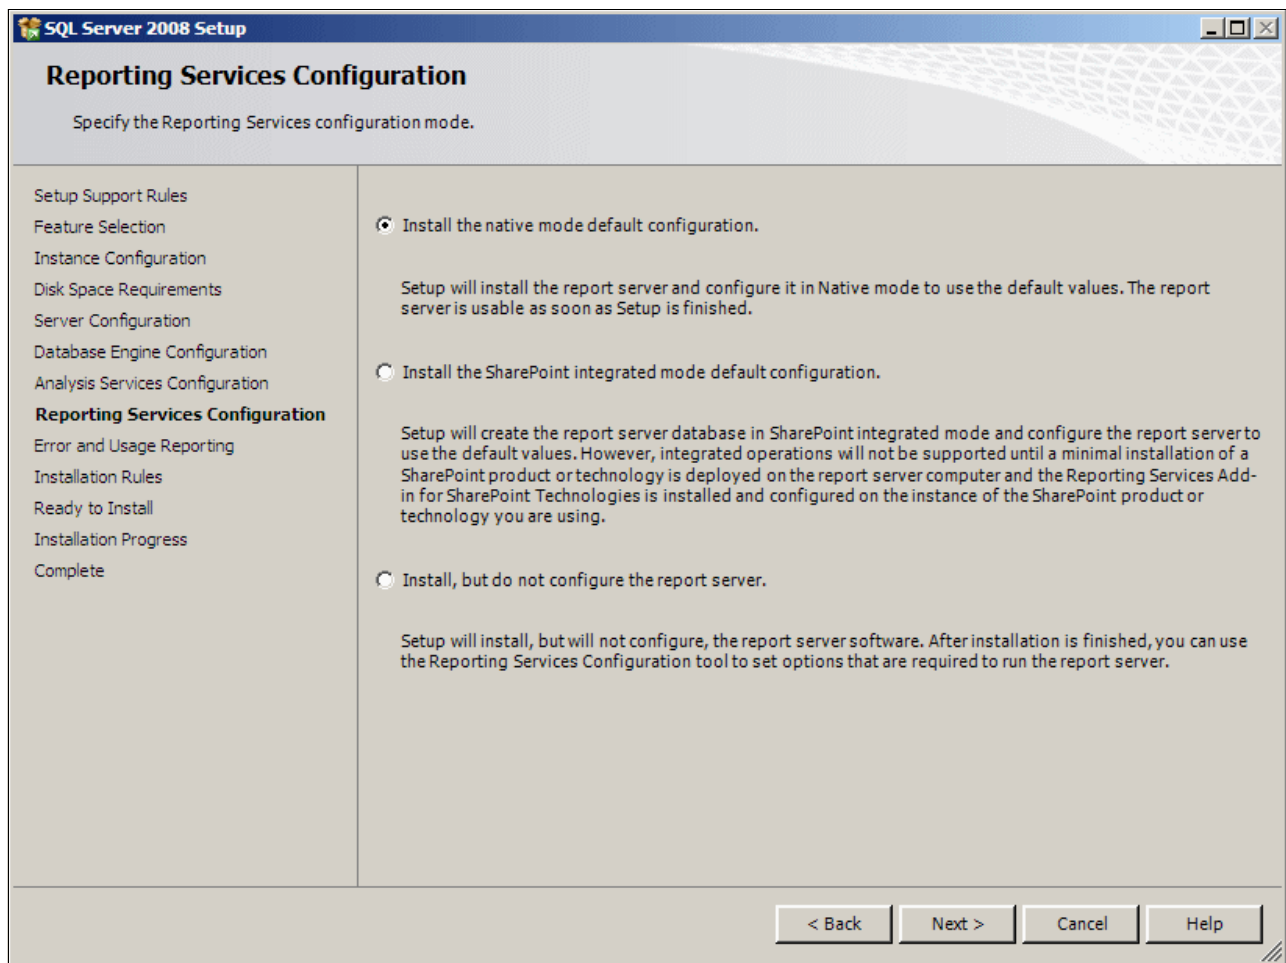

Figure 6-30 The Reporting Services configuration panel.
13. The “Reporting Services Configuration” panel (Figure 6-30) presents several configuration options. For our example, we clicked the **Install the native mode default configuration** radio button. Click **Next**.